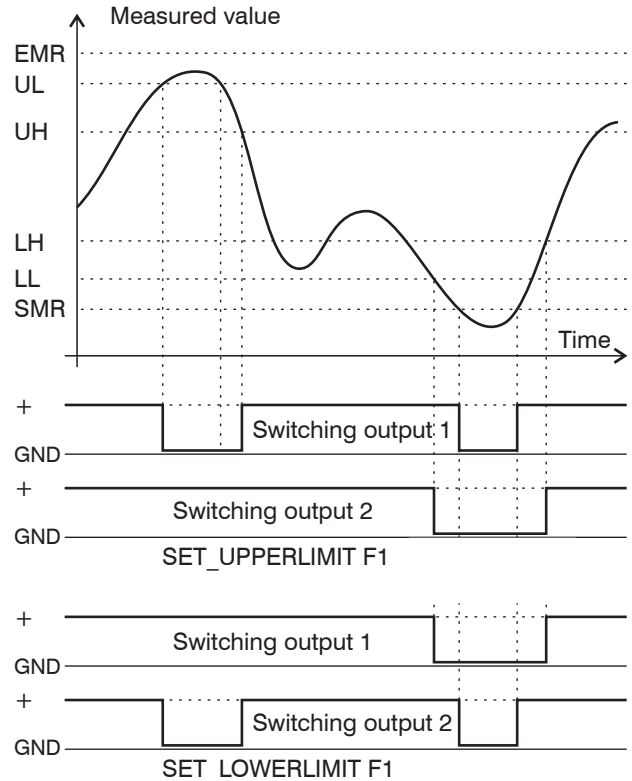

Fig. 19: Signal sequence for the switching outputs in operation mode „Sync switch“ and „Trigger switch“
In switch mode, both switching outputs are used as limit switches, see Fig. 19.
If the upper limit is exceeded the assigned switching output 1 will be activated (conducting), and deactivated again with the follow-on shortfall on the upper hysteresis value. The same applies in principle to a shortfall on the lower limit and switching output 2, see Fig. 19.
- the object to be measured is outside the measurement range, see Fig. 19,